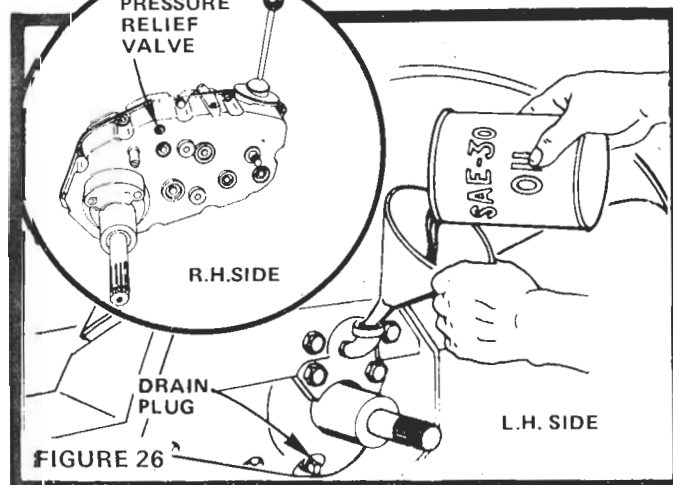

FIGURE 26
- Check Pressure Relief Valve located on R.H. side near top (Fig. 26). It should spring completely closed when pulled out by hand.
- Drain Transaxle Oil by removing Drain Plug (Fig. 26) and catching Oil in suitable container. Replace Drain Plug.
- Refill Transaxle with S.A.E. 30 (SC, SD or SE) Motor Oil. Capacity is 5 quarts. Pressure Relief Valve (R.H. side of Transaxle, Fig. 26, Inset) may be held open to allow Transaxle to fill more quickly.